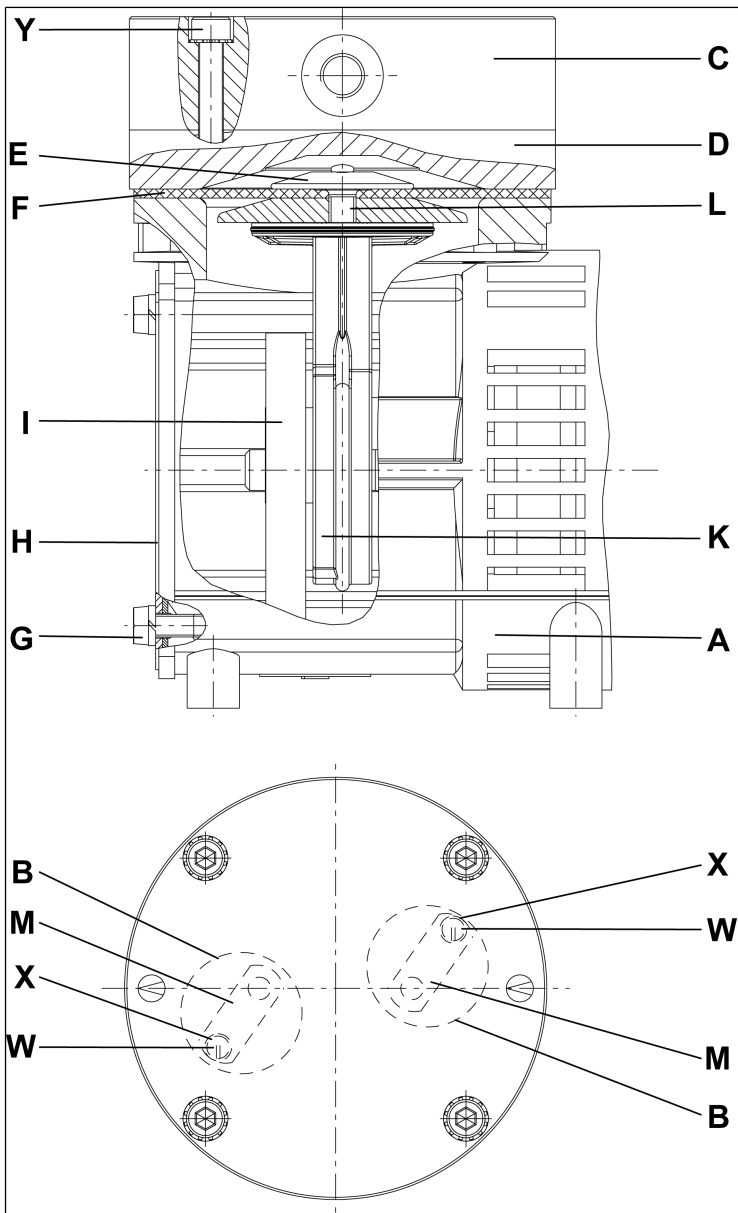

Fig.7: Pump parts for pump models with smooth heads and valve springs (stainless steel, symbolic)
** According to Fig. 7
i The following item numbers refer to Fig. 7.